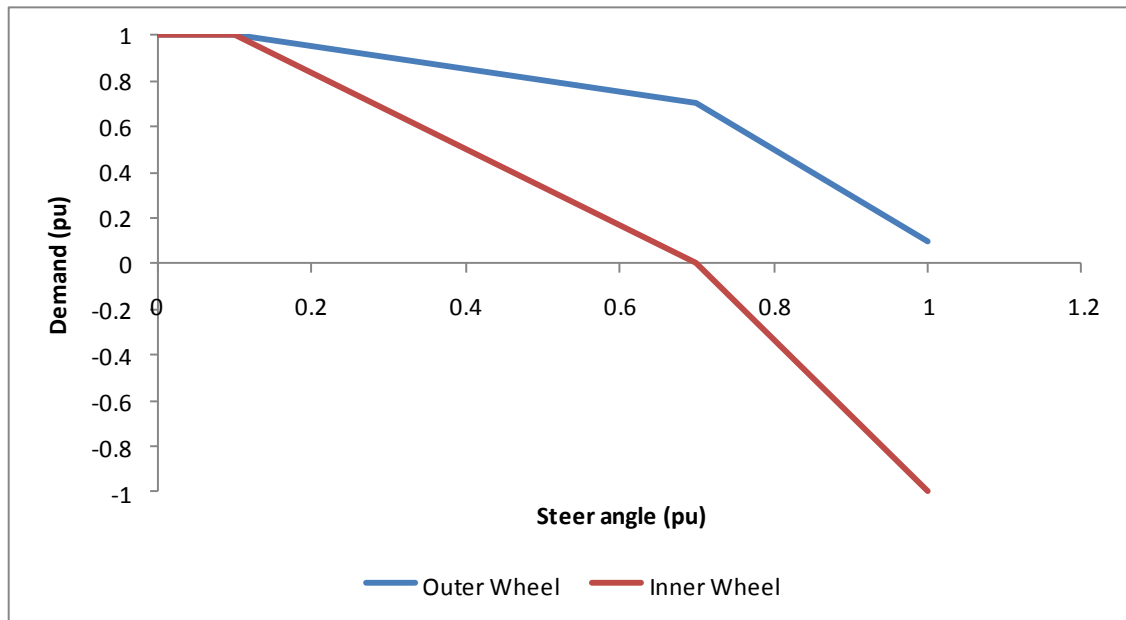

Figure 28 Graph of speed vs. steering angle
- Setup the steering map. This map defines the relationship between the inner and outer wheel speeds and the steering angle. Each map has 4 user definable points as shown in Figure 28.